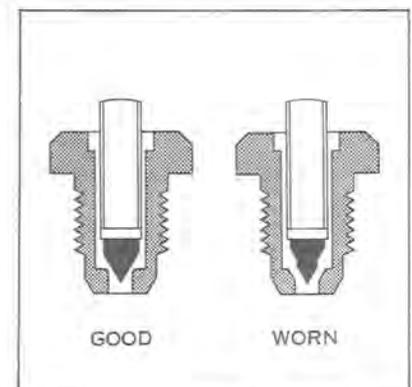

Figure 5-5
- f. Inspect float needle valve and seat, and replace if nicked, scratched, or worn (see Figure 5-5). The valve seat and needle are a matched set; if either is worn, both parts must be replaced. Use a new sealing gasket when installing needle seat.